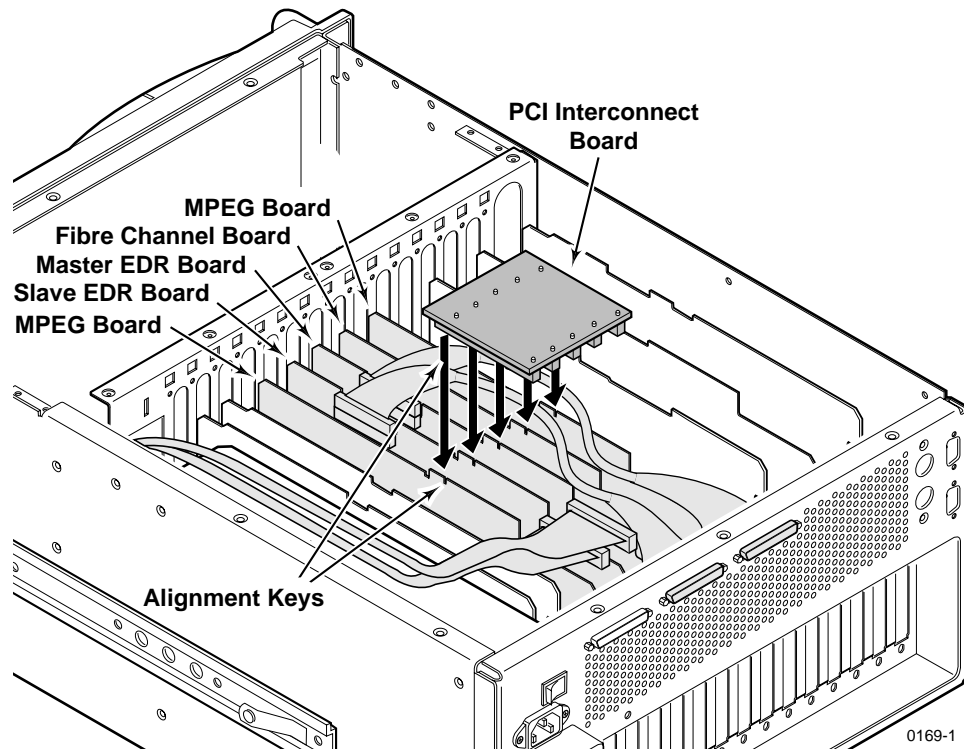

Figure 6. Installing the five-slotted PCI Interconnect board
6. Install the five-slotted PCI Interconnect board. This board is a high-speed bus used to move data between boards with PCI connectors. Align the center keys on the PCI Interconnect board with the keys on the Master EDR board in slot J10. Using appropriate pressure, press down firmly on the interconnect board to ensure that it is properly seated (see Figure 6).
7. Install the five-slotted PCI Interconnect board. This board is a high-speed bus used to move data between boards with PCI connectors. Align the center keys on the PCI Interconnect board with the keys on the Master EDR board in slot J10. Using appropriate pressure, press down firmly on the interconnect board to ensure that it is properly seated (see Figure 6 on page 15).
4. Install the five-slotted PCI Interconnect board. This board is a high-speed bus used to move data between boards with PCI connectors. Align the center keys on the PCI Interconnect board with the keys on the Master EDR board in slot J10. Using appropriate pressure, press down firmly on the interconnect board to ensure that it is properly seated (see Figure 6 on page 15).